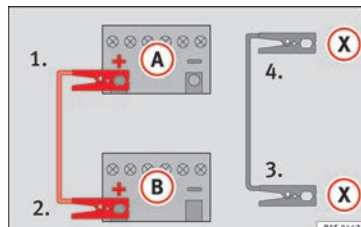

Fig. 87 Diagram of connections for vehicles with Start-Stop system.
– *For vehicles with Start-Stop system:* connect one end of the **black** jump lead **(X)** to a suitable ground terminal, to a solid piece of metal in the engine block, or to the engine block itself » **Fig. 87**.